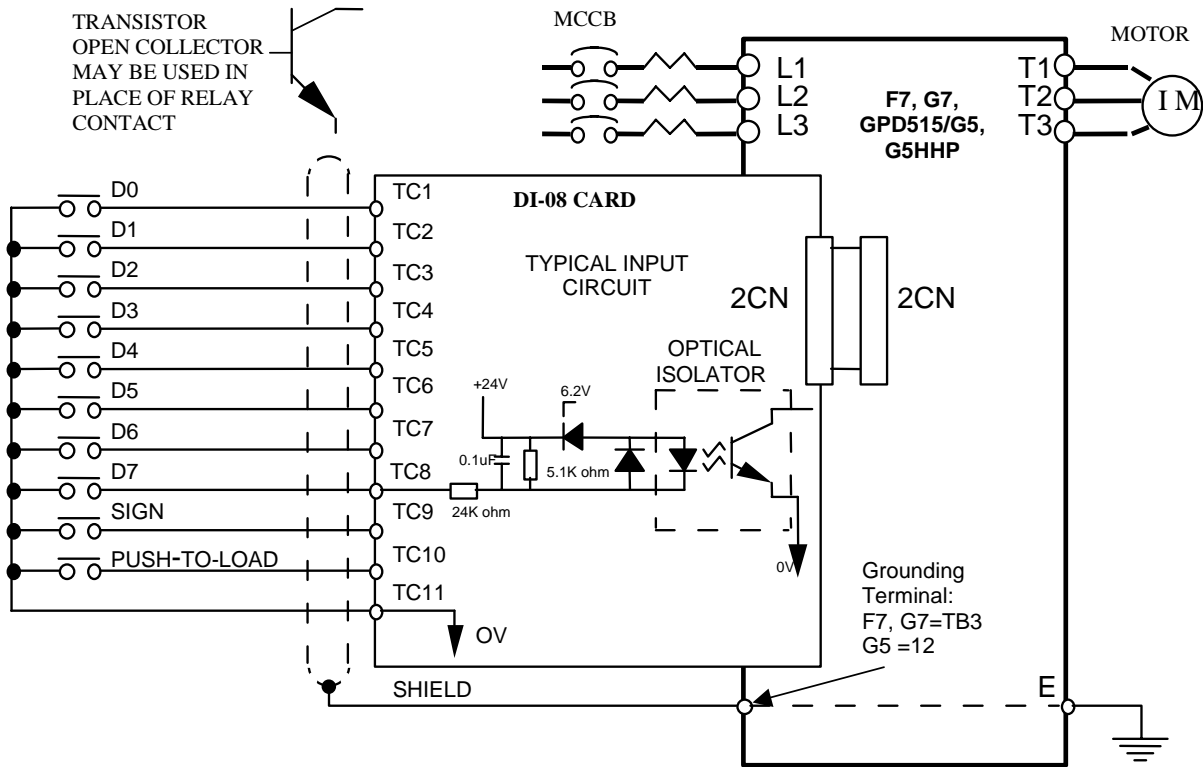

Figure 2. DI-08 Interconnection Diagram
6. **Wiring:** Refer to Figure 2 and Table 2. Make wire connections between the DI-08 card and drive as well as all peripheral devices. Observe the following: